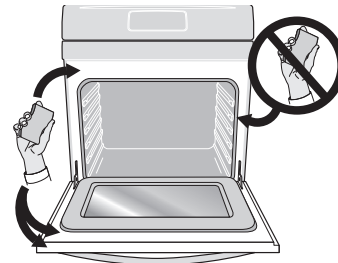

Figure 18: Clean around the oven door gasket
9. Wipe oven cavity and bottom. Do not clean oven door gasket (Figure 18). Avoid leaning or resting on the oven door glass while cleaning cavity.